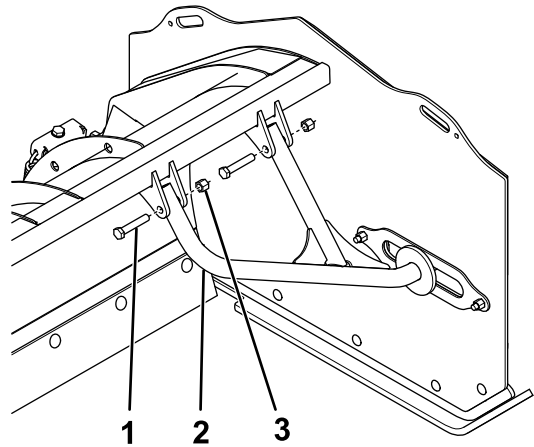

Figure 6
4. Slide a wing brace into the slot on the plow wing (Figure 6).
5. Secure the top of the wing brace to the tabs on the plow using 2 bolts (3/4 inch) and locknuts (Figure 6).